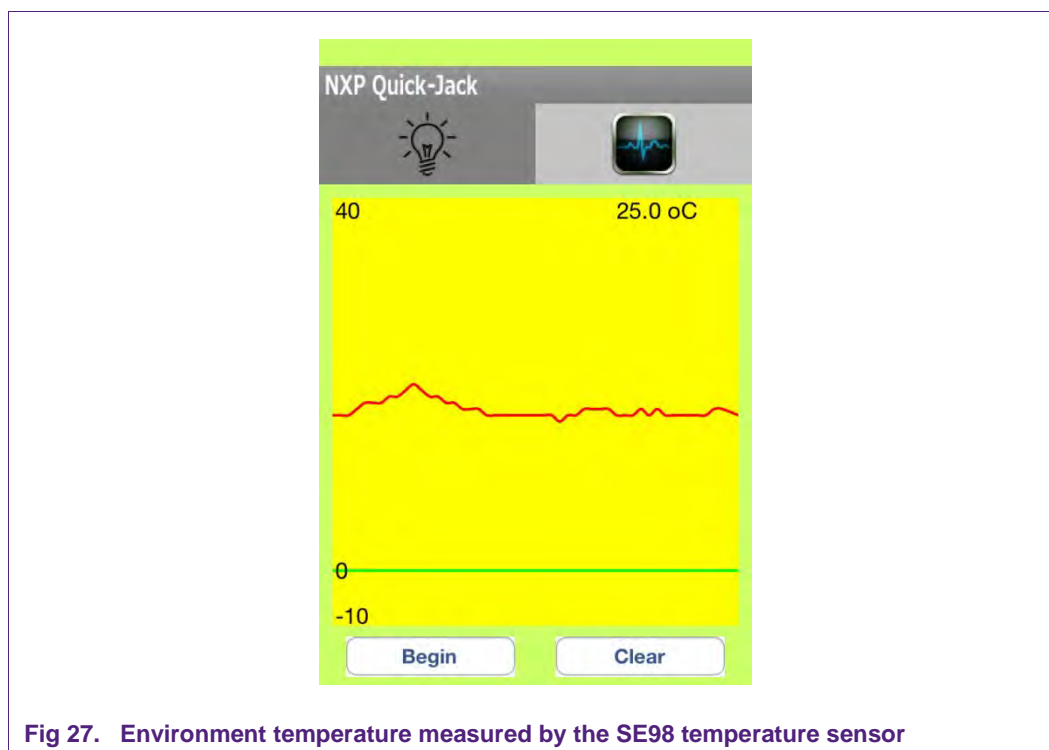

Fig 27. Environment temperature measured by the SE98 temperature sensor
- Clicking on the sensor tab (top right in the app) shows the temperature sensor interface. After clicking the *Begin* button, the current temperature as measured by the on-board SE98 sensor will be displayed and a temperature vs. time graph will be plotted (Fig 27). Note that when the sensor tab is opened, LD4 stops blinking, when returning to the LEDs tab, LD4 resumes blinking.